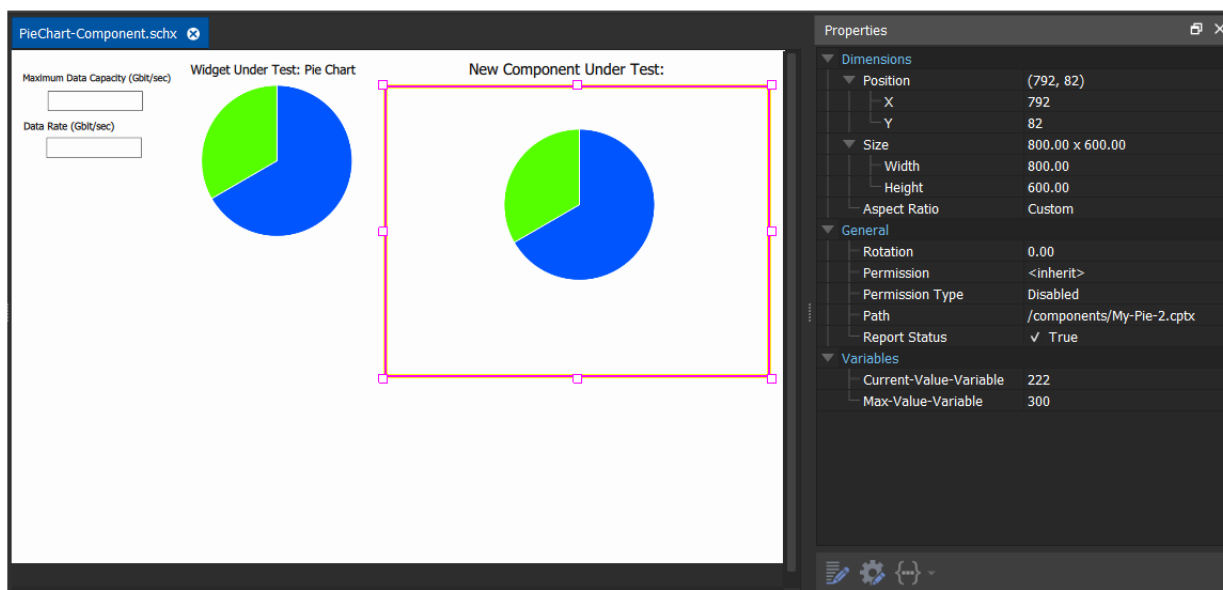

Fig. 4-24: New Pie Chart Component Used on a Screen
- Drag the new **Pie Chart** component onto the screen schematic from the **Project View**, alongside the existing **Pie Chart** widget. See Figure 4-24.